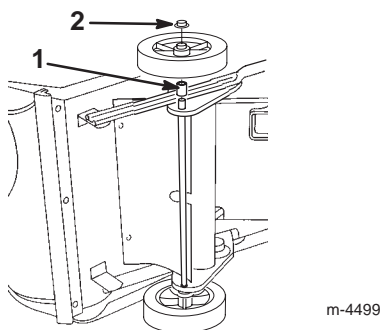

Figure 3
6. Slide the *long* spacer and a wheel onto the left axle end (Fig. 3).